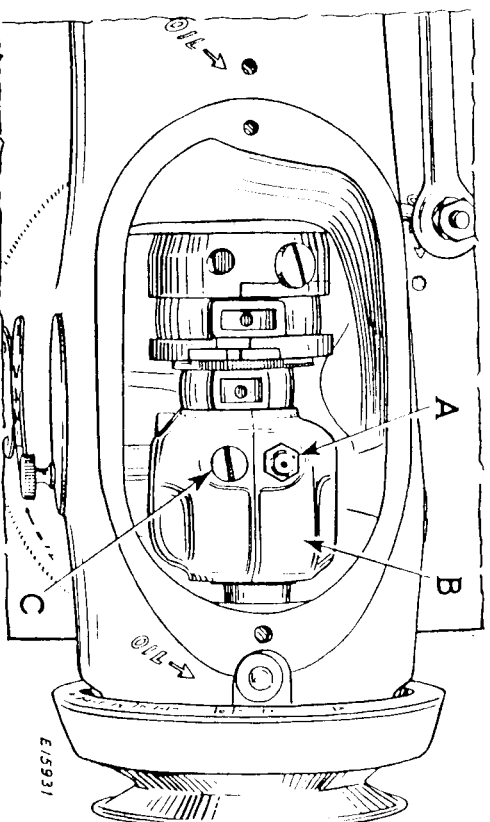
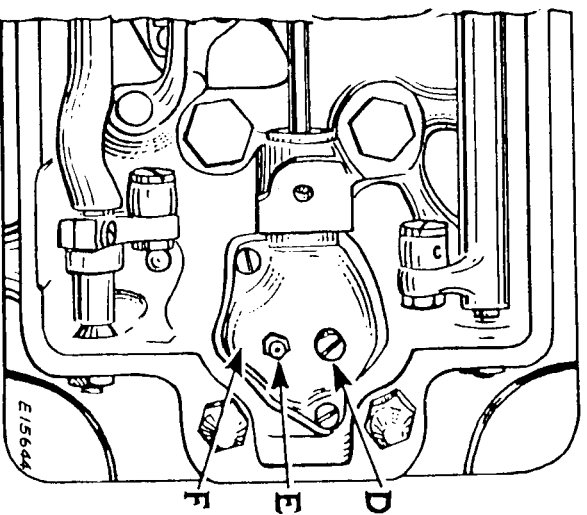

FIG. 4. Top View, Arm Top Cover Removed. Upper Gear Case Lubrication.
FIG. 5. Lower Gear Case Lubrication.
When the machines leave the factory, the gear cases are packed with sufficient Singer Gear Lubricant for approximately 160 hours of operation. Every 160 hours of operation thereafter, replenish the gear cases (B, FIG.4) and (F, FIG.5) with Singer Gear Lubricant (marked for use with
grease guns are supplied on order at extra charge. Take out the two screws which fasten the arm top cover to the machine arm and remove the level hole screw (C, FIG. 4). After making certain that the lubricant is issuing from the grease gun, apply lubricant through the grease fitting (A, FIG. 4). Do not overfill the gear case, nor apply enough to cause it to emerge from the hole at (C). The quantity can be roughly checked by observation through the hole at (C). Replace screw (C) and arm top cover. Lay the machine back on its rear side and remove level hole screw (D, FIG. 5) and apply lubricant through grease fitting (E, FIG. 5) in
the same manner and in the same quantity as for gear case (B, FIG. 4).